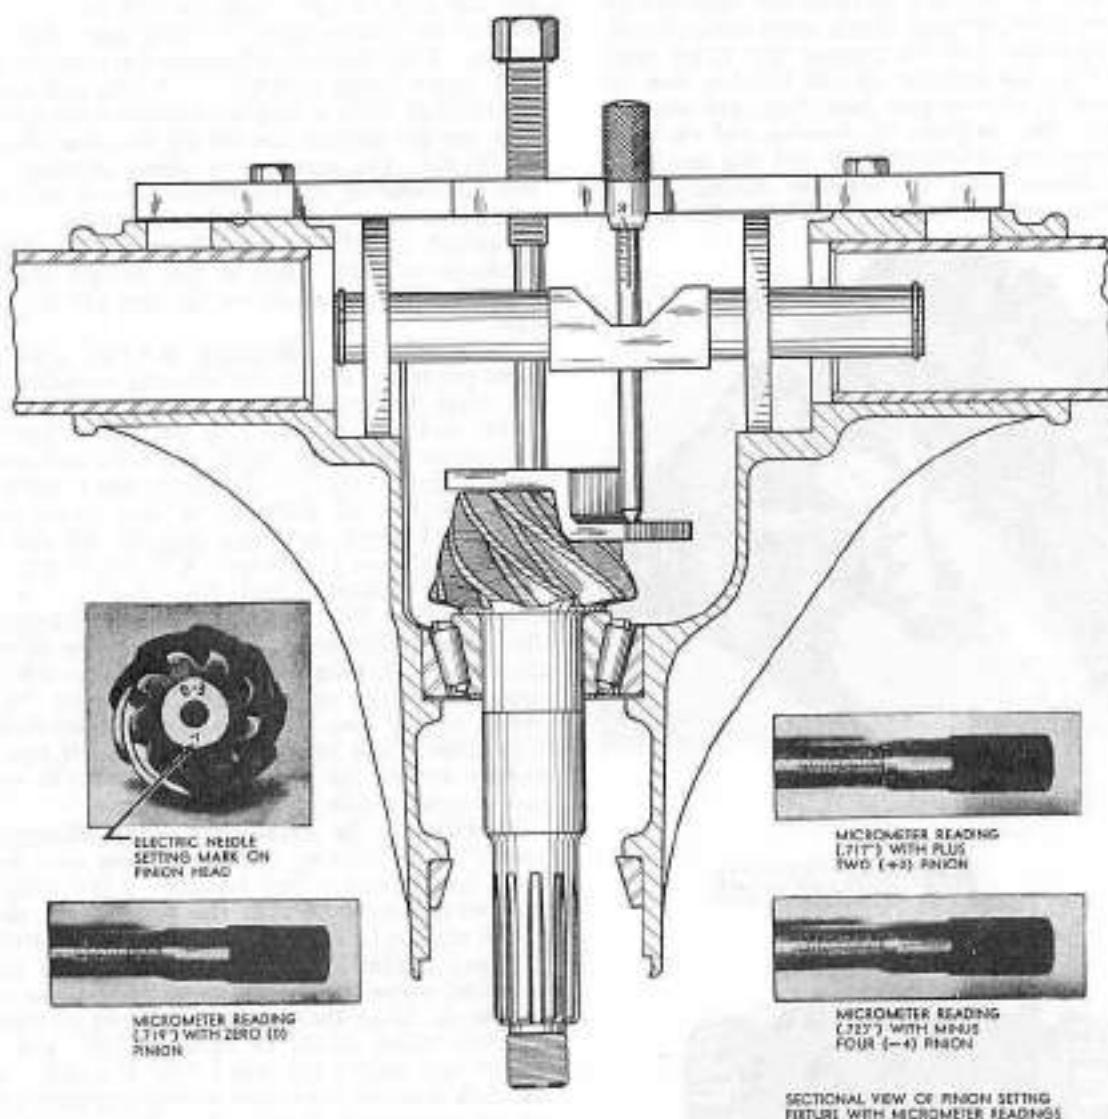

FIG. 294
The rear axle pinion should be adjusted properly before further rear axle reassembly is attempted. The marking on the ground surface at the end of the pinion indicates the correct pinion setting (see insert in Fig. 294). This marking may be a zero (0), a minus (-), or a plus (+). When properly adjusted, a pinion marked zero (0) will provide a micrometer reading of .719" (18,262 mm.), a pinion marked plus two (+2) a reading of .717" (18,211.8 mm.), and a pinion marked minus four (-4) a reading of .723" (18,365.2 mm.). (See Fig. 294.)